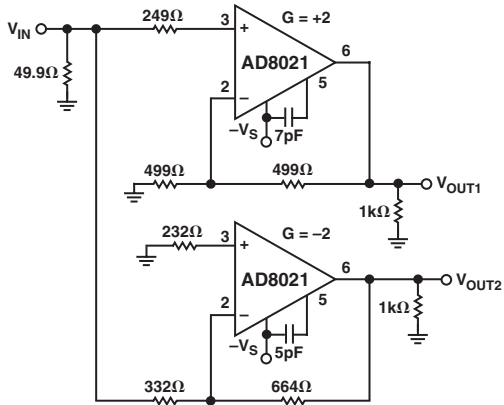
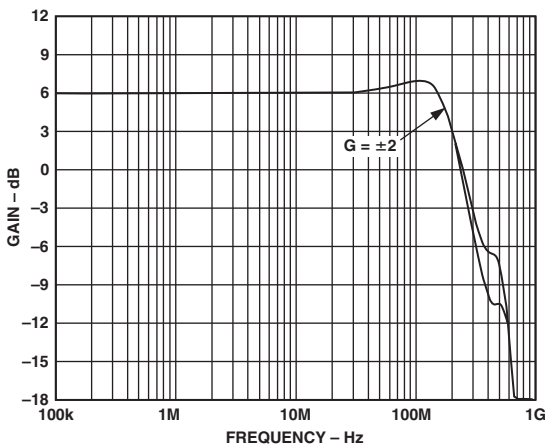

Figure 10. Differential Amplifier
Figure 12. AC Response of Two Dissimilarly Compensated AD8021 Op Amps (Figure 11) Configured for Gains of +2 and -2. Note the Close Gain Match.
3. Match bandwidth in gain blocks with different noise gains, such as when designing differential amplifiers (as shown in Figure 10).
Figure 10 illustrates an inverter-follower driver circuit operating at a gain of 2, using individually compensated AD8021s. The values of feedback and load resistors were selected to provide a total load of less than 1 kΩ, and the equivalent resistances seen at each op amp's inputs were matched to minimize offset voltage and drift. Figure 12 is a plot of the resulting ac responses of driver halves.